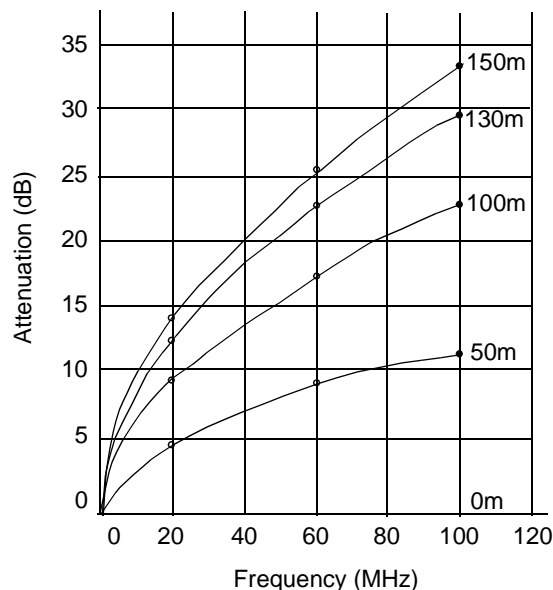

Figure 10. EIA/TIA Attenuation vs. Frequency for 0, 50, 100, 130 & 150 meters of CAT 5 cable
- In high-speed twisted pair signalling, the frequency content of the transmitted signal can vary greatly during normal operation based primarily on the randomness of the scrambled data stream and is thus susceptible to frequency dependent attenuation (see Figure 10). This variation in signal attenuation caused by frequency variations must be compensated to ensure the integrity of the transmission. In order to ensure quality transmission when using MLT-3 encoding, the compensation must be able to adapt to various cable lengths and cable types depending on the installed environment. The usage of long cable length requires significant compensation which will over-compensate for shorter and less attenuating lengths. Conversely, the usage of short or intermediate cable length requiring less compensation will cause serious under-compensation for longer length cables. Therefore, the compensation or equalization must be adaptive to ensure proper level of the received signal independent of the cable length.